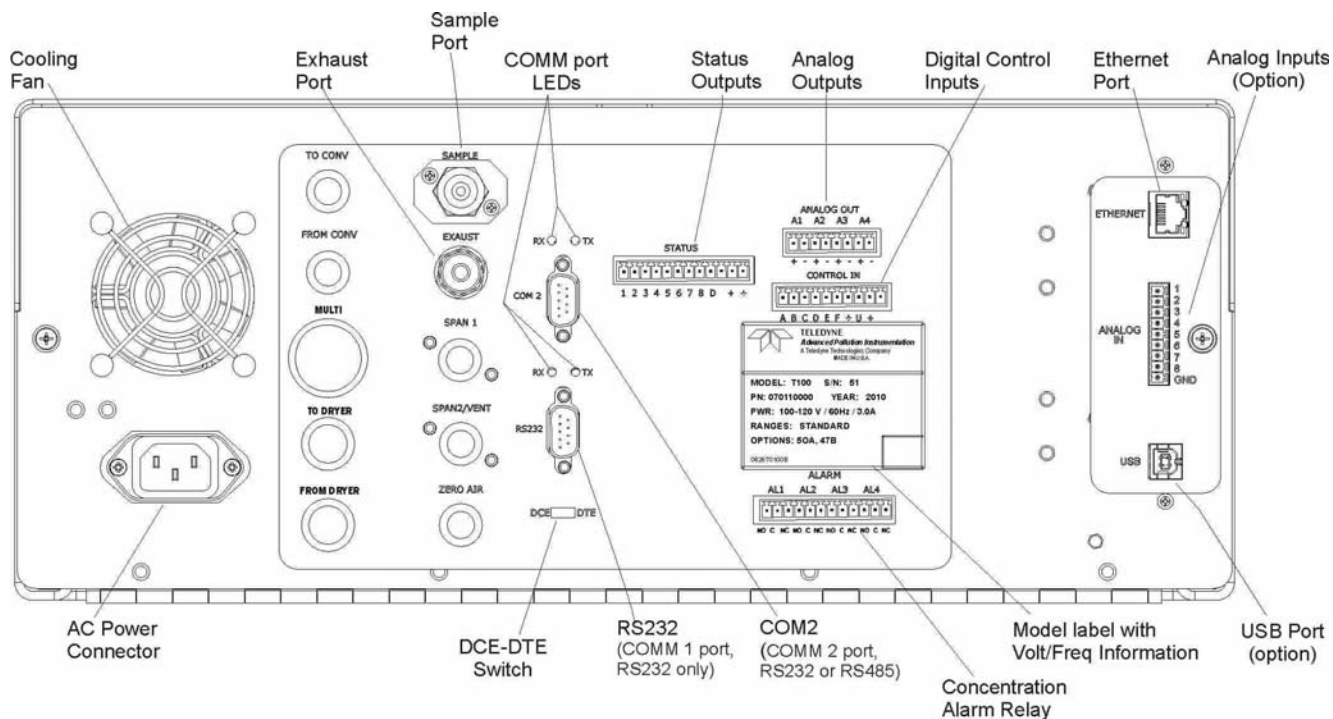

Figure 3-4: Rear Panel Layout – Base Unit
**To avoid damage to your analyzer, ensure that the AC power voltage matches the voltage indicated on the analyzer's model/specs label (Figure 3-4) before plugging the 9110T into line power.**